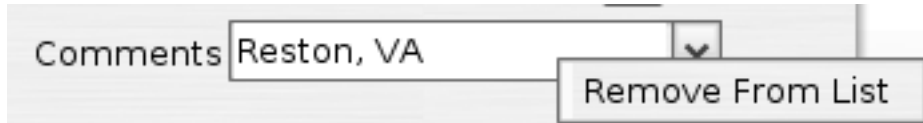

Figure 5.45. Auto-Complete Delete Item from List
2. Right mouse click on the textfield and look for the popup menu with the item that says "Remove from list" see Figure 5.45, "Auto-Complete Delete Item from List".